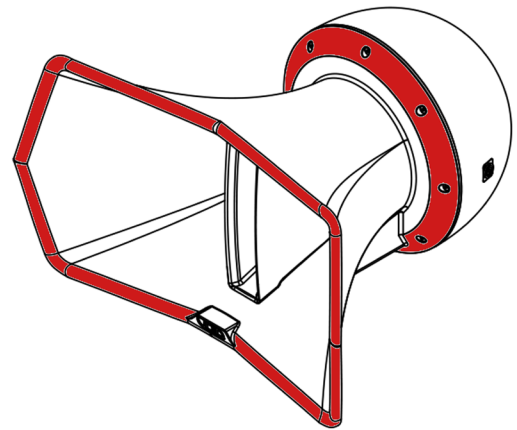

Figure 3.1: Safe Handling Positions
- To remove from the transport case, each person should hold the Air Vantage on each side, with one hand on the edge of the horn flare, and the other supporting the weight of the drivers to the rear as shown in figure 3.1